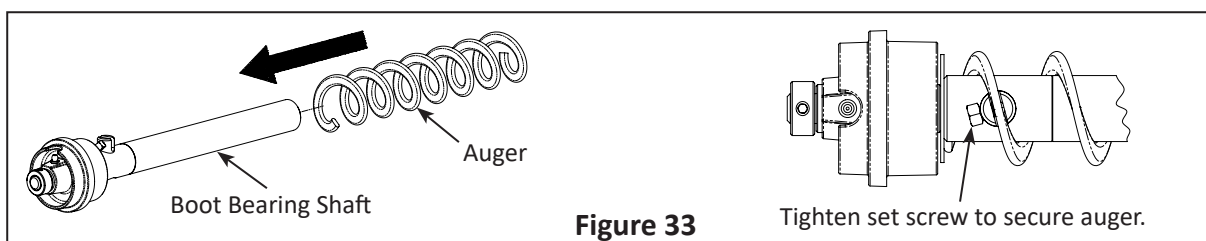

Figure 33
6. Slide the boot bearing shaft onto the auger and thread the auger inside the anchor, as shown in Figure 33. Tighten the square head set screw to secure auger.